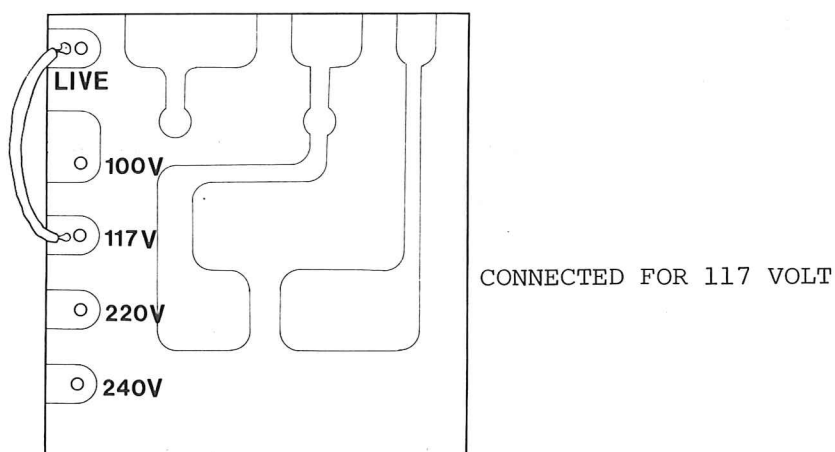

Fig. 2-6 Junction Terminals
2. Resolder the lead wire of the voltage selection terminal on the junction terminals to the desired voltage terminal marked as shown in Fig. 2-6.